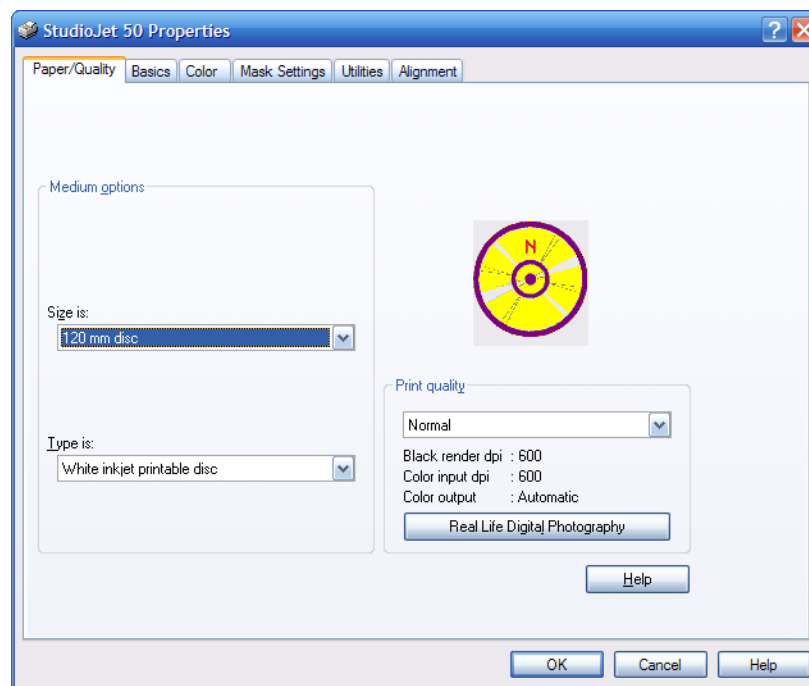

Figure 4.2: StudioJet Printer Properties
2. Within the program you are using to create the disc label select **Print** from the **File** menu (make sure StudioJet is selected) and then click on **Properties** (Figure 4.2).